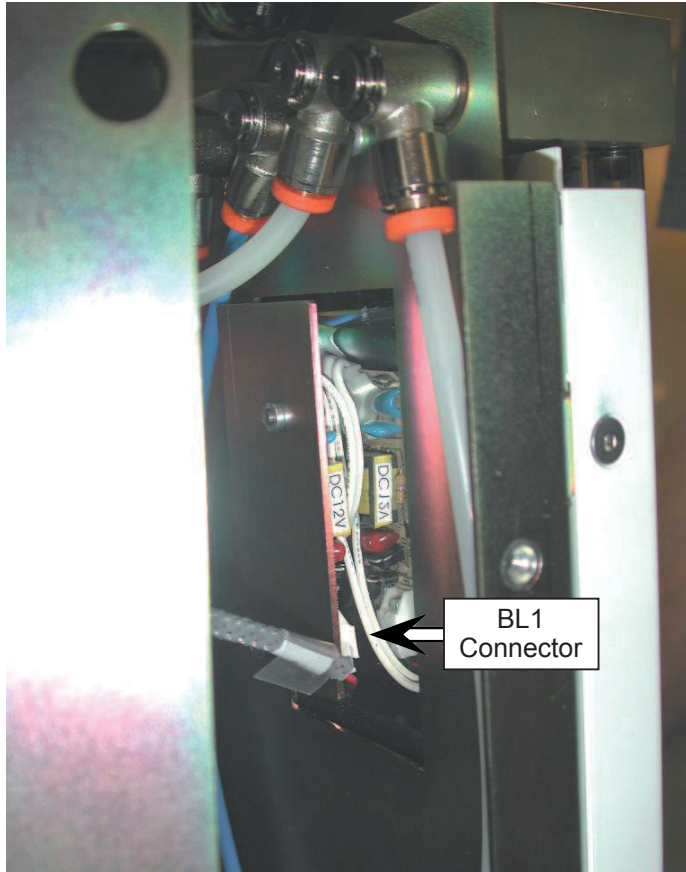

Figure 55 - BL1 Connector Location
3. Carefully disconnect the power supply cable from the back light inverter on the rear of the flow meter (marked BL1 in Figure 55).